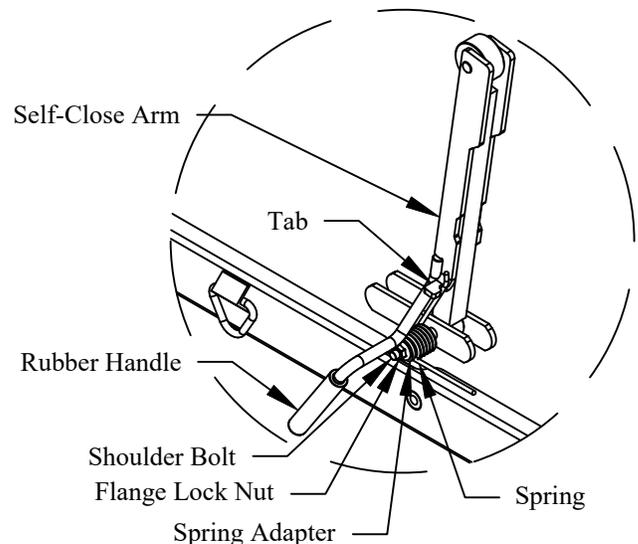

Figure 3: Self-Close Arm.
6. **Install** the new self-close arm and spring using the supplied fasteners (Figure 3).
7. **Bend** the spring over the tab on the self-close arm (Figure 3), using a pair of pliers while holding the self-close arm down firmly. This keeps the spring from contacting the platform.